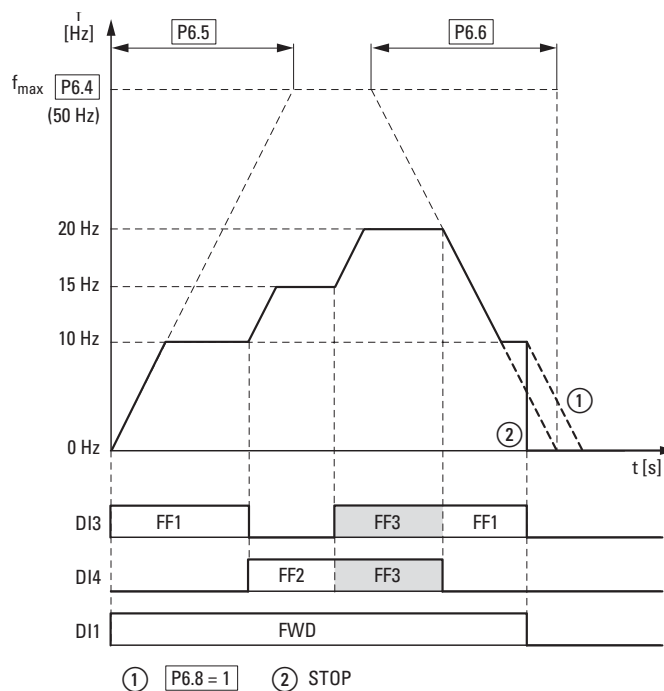

Figure 109: Example, activation of fixed frequencies with acceleration and deceleration ramps
The change between the individual fixed frequencies is done with the acceleration times and deceleration times set at P6.5 and P6.6. When FWD or REV enable is revoked, the output frequency is inhibited directly (coasting to halt). When P6.8 = 1 the controlled deceleration of the drive is executed ① (→ Figure 109).